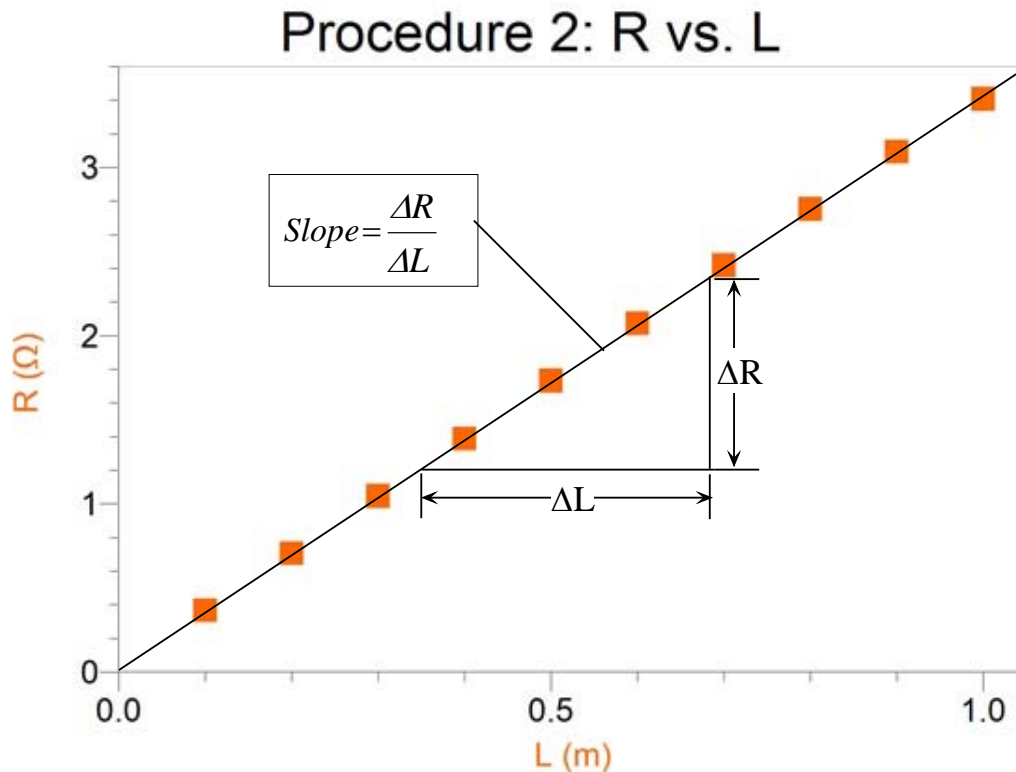

Fig. 5. Resistance of the wire as a function of its length. Slope of this dependence equals ratio of resistance over area of cross-section of the wire.
2. From the data of Procedure 2, compute R in ohms, for each length L using formula $R = V/I$ (Fig. 5). Watch the units! Voltage must be taken in Volts, whereas current in Amperes. Plot R as a function of L (R as ordinate and L is abscissa). Fit the experimental points with a straight line passing through the origin. Calculate slope of this line $\Delta R/\Delta L$.